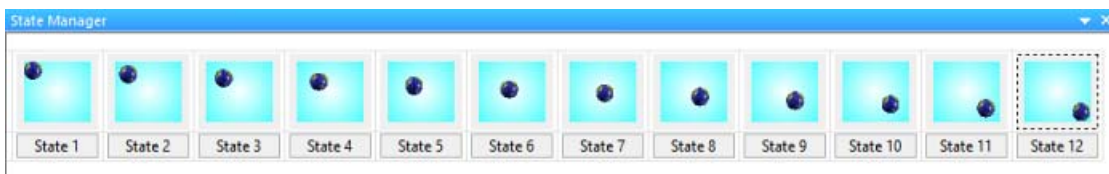

FIG. 328 State Manager window - multi-state button with 12 states with Bitmap Position tweened
15. The result of the *Bitmap Position* tween is shown in the State Manager window (FIG. 328):